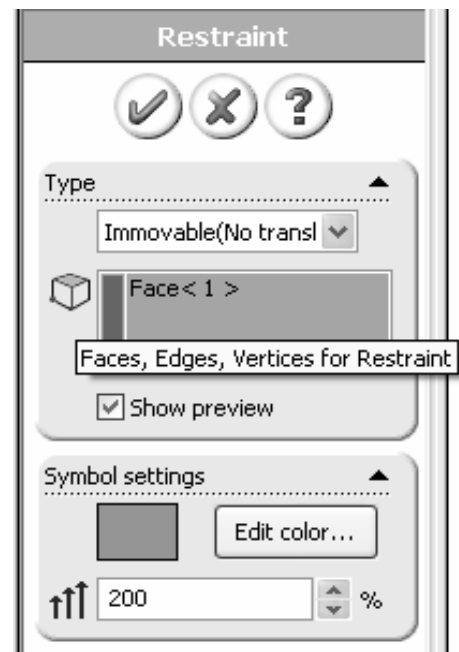
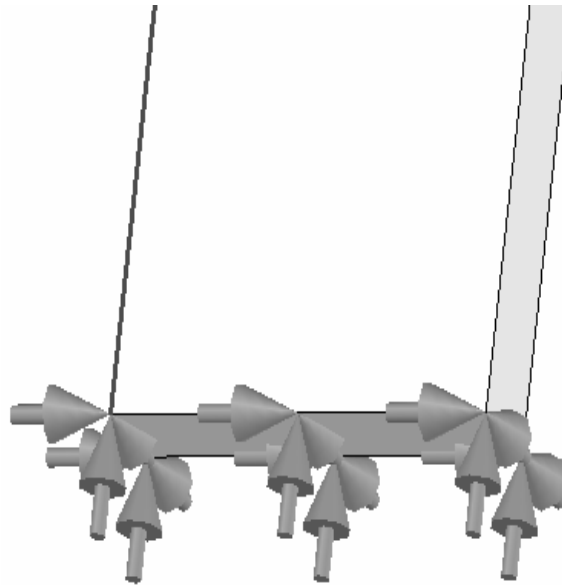

Figure 6 – **Restraint** property manager.
Figure 7 – **Immovable** restraints applied to bottom of the curved beam model.
The **Restraint** property manager opens as seen in Fig. 6.
bottom of the model. Next, move the cursor over the model and when the bottom surface is indicated, click to select it. The surface is highlighted and restraint symbols appear as shown in Fig. 7 provided the **Show preview** box is checked. Also, **Face<1>** appears in the **Faces, Edges, Vertices for Restraint** field.
- Both color and size of the restraint symbols (vectors in the X, Y, Z directions) can be changed by altering values in the **Symbol Settings** field of Fig. 6. Experiment by clicking the up ▲ or down ▼ arrows to change size of restraint symbols. A box of this type, where values can be changed either by typing a new value or by clicking the ▲ ▼ arrows, is called a “spin box.” Restraint symbols shown in Fig. 7 were arbitrarily increased to 200%. Experiment with this option.
Immovable restraint symbols shown in Fig. 7 appear as simple arrows or vectors with a straight shaft. These symbols indicate *displacements* in the X, Y, and Z directions are restrained (i.e., prevented).